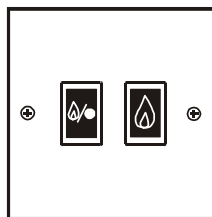

Figure 12 - Wall Switch
1. Ensure the main burner is off by pressing the button on the trim marked  ('small flame/dot') until clicking is heard on the valve (see **Figure 12**).
6. Press and hold the  ('large flame') button (in **Figure 12**) until clicking is heard (fully open).